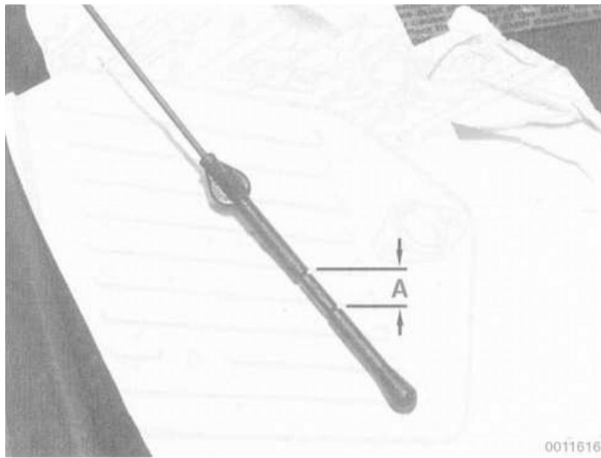

Fig. 27. ATF dipstick on A4S 31 OR transmission. Fluid level is indicated at A
- On cars with ATF level dipstick, check the ATF level using Fig. 27 and Table e. The fluid level should only be checked with car on level surface and unloaded.